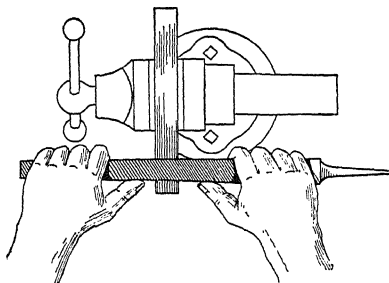

FIG. 232.—Drawfiling.
**266. Drawfiling.**—When it is desired to "line" or grain a piece of work (either flat or round) lengthwise it may be done by drawfiling. Hold the file as shown in Fig. 232. Keep it flat, and bear on as hard as necessary both directions of the stroke, being careful not to scratch the work with a dirty or